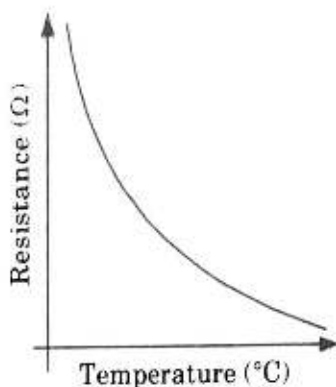

Fig. 5.8.2.
4. The relationship between a thermistor's temperature and resistance is non-linear. A typical thermistor graph is shown in Fig. 5.8.2.